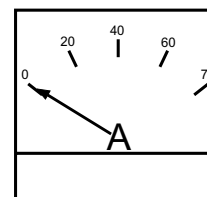

Figure 45. Ammeter (No Load)
9. The ammeter (Figure 45) will indicate zero amps with no load applied. When a load is applied, this meter will indicate the amount of current that the load is drawing from the generator.